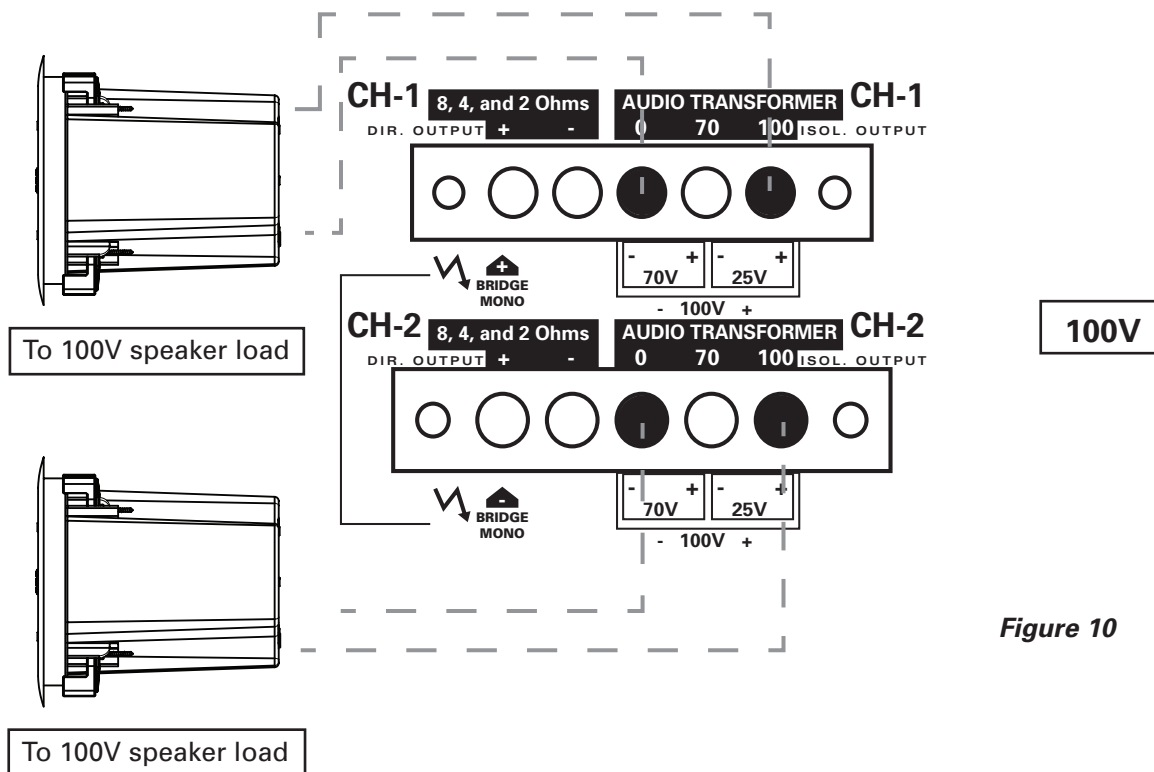

Figure 10
- **100V** - Connect the positive speaker lead to the terminal labeled "100" and the negative speaker lead to the terminal labeled "0" (Figure 10).